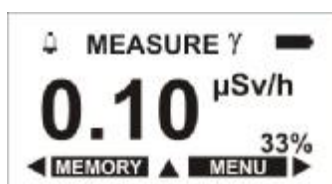

Figure 2.4
For checking workability it's necessary to close the filter 2 (Figure 1.1). Switch the instrument on according to the item 2.2.1. After switching on and termination of the checking process the instrument should enter the DER measurement mode "measurement  $\gamma$ ". The information should be displayed on LCD (Figure 2.4).
The instrument enters DER measurement mode automatically just after switching on or purposely from "MENU". For that it is necessary to choose the "MEASUREMENT  $\gamma$ " line and press the "SELECT" button. Being in the DER mode the instrument displays on LCD continuously measured values the photon radiation DER in " $\mu\text{Sv/h}$ ", "mSv/h" and the statistical error of the measured DER in percentage, Figure 2.4.